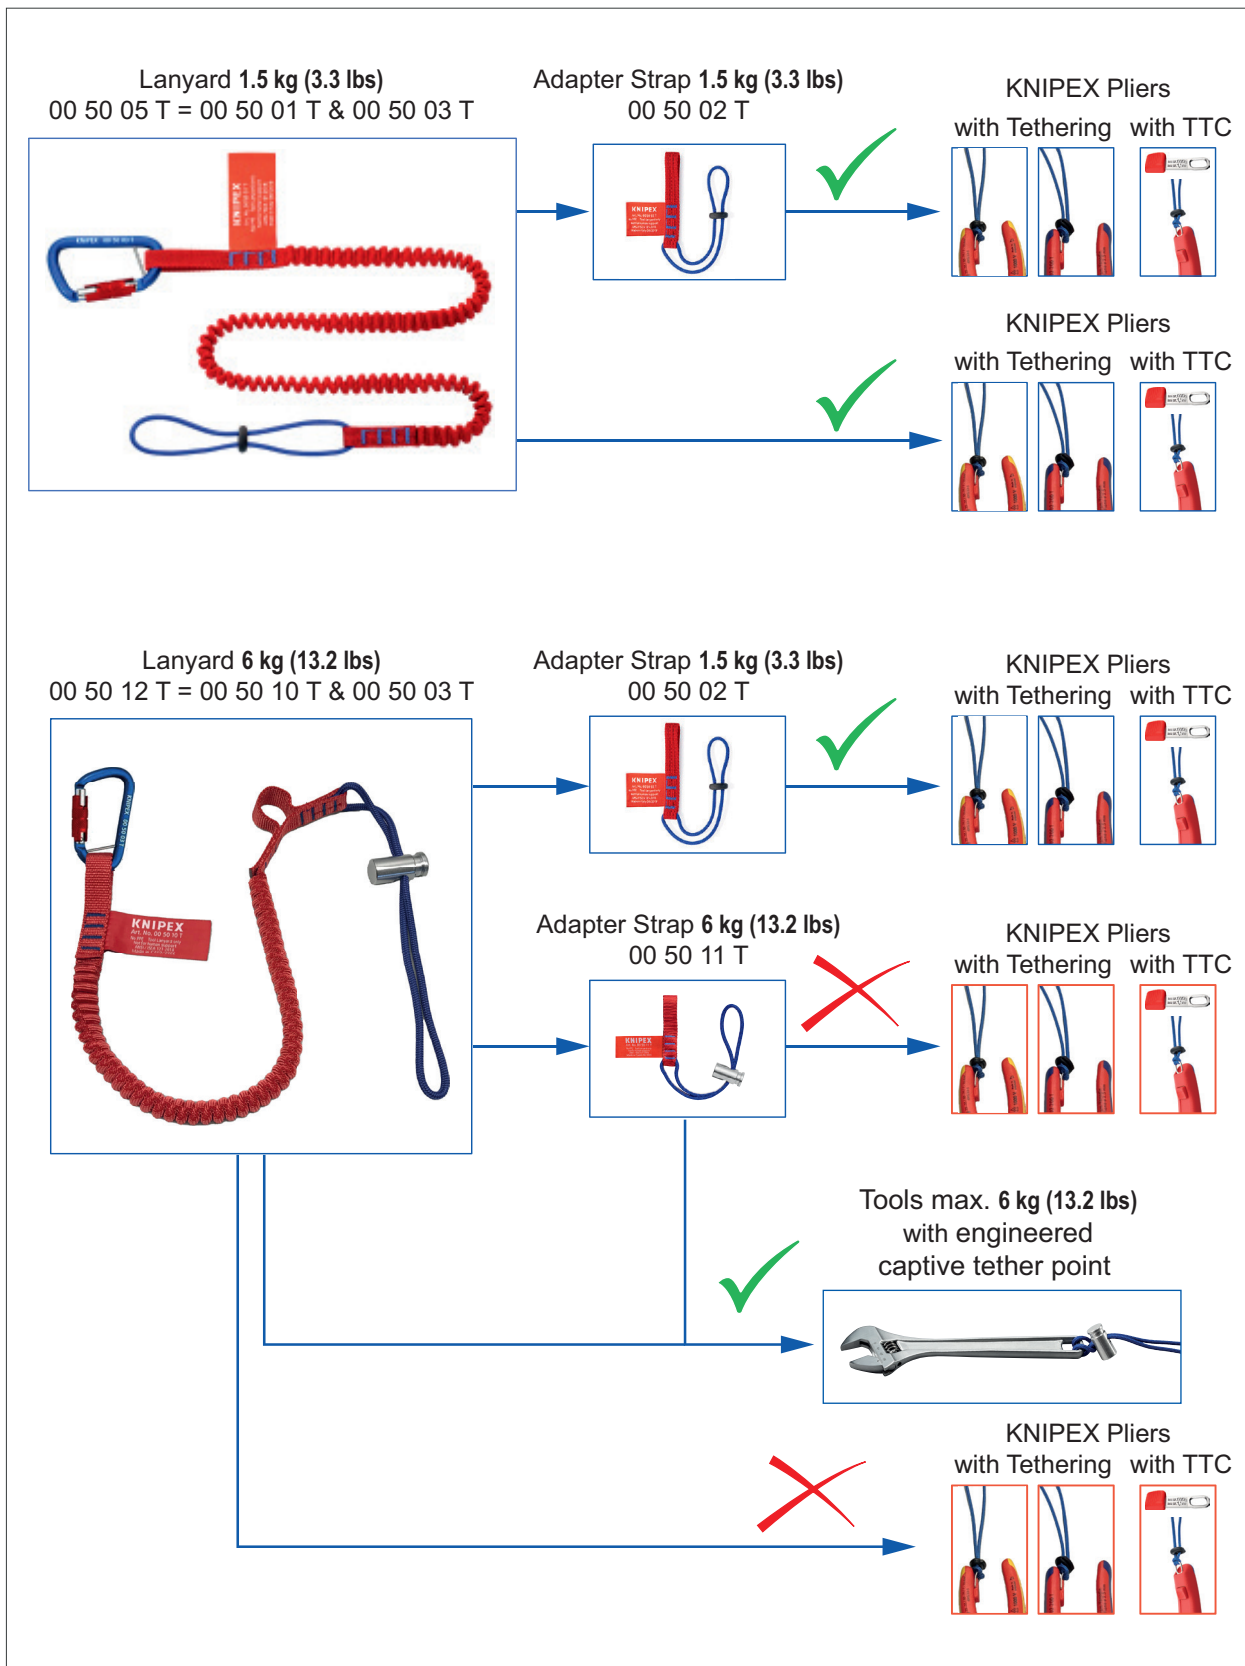

Figure 5: Compatibility to KNIPEX Tools with Tethering
- When connecting a KNIPEX Tool equipped with a tethering point to your Lanyard or Adapter Strap, check (Figure 5), to see if your Lanyard or Adapter Strap is compatible.
- To connect a KNIPEX Tool with tethering to the 6 kg (13.2 lbs) Lanyard (KNIPEX 00 50 10 T) you must use the 1.5 kg (3.3 lbs) Adapter Strap (KNIPEX 00 50 02 T) (Figure 5) (The cord of the 6 kg (13.2 lbs) version is too thick to thread through the tether point on the tool).